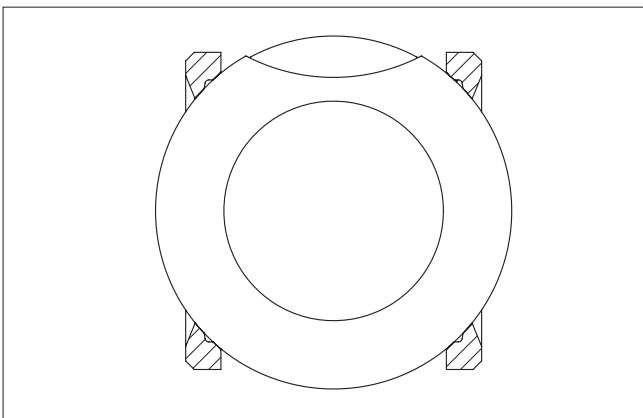
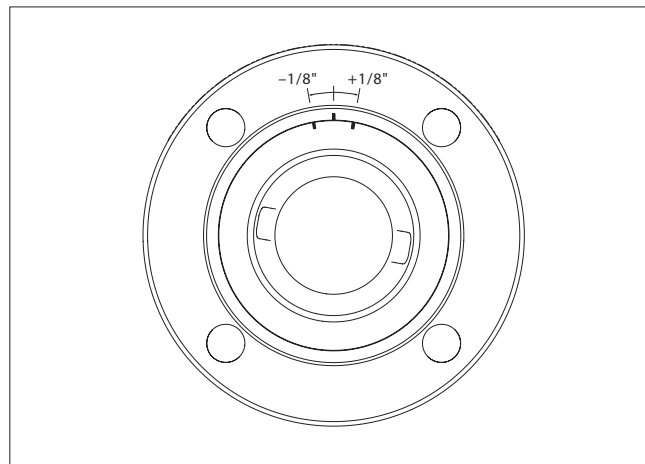
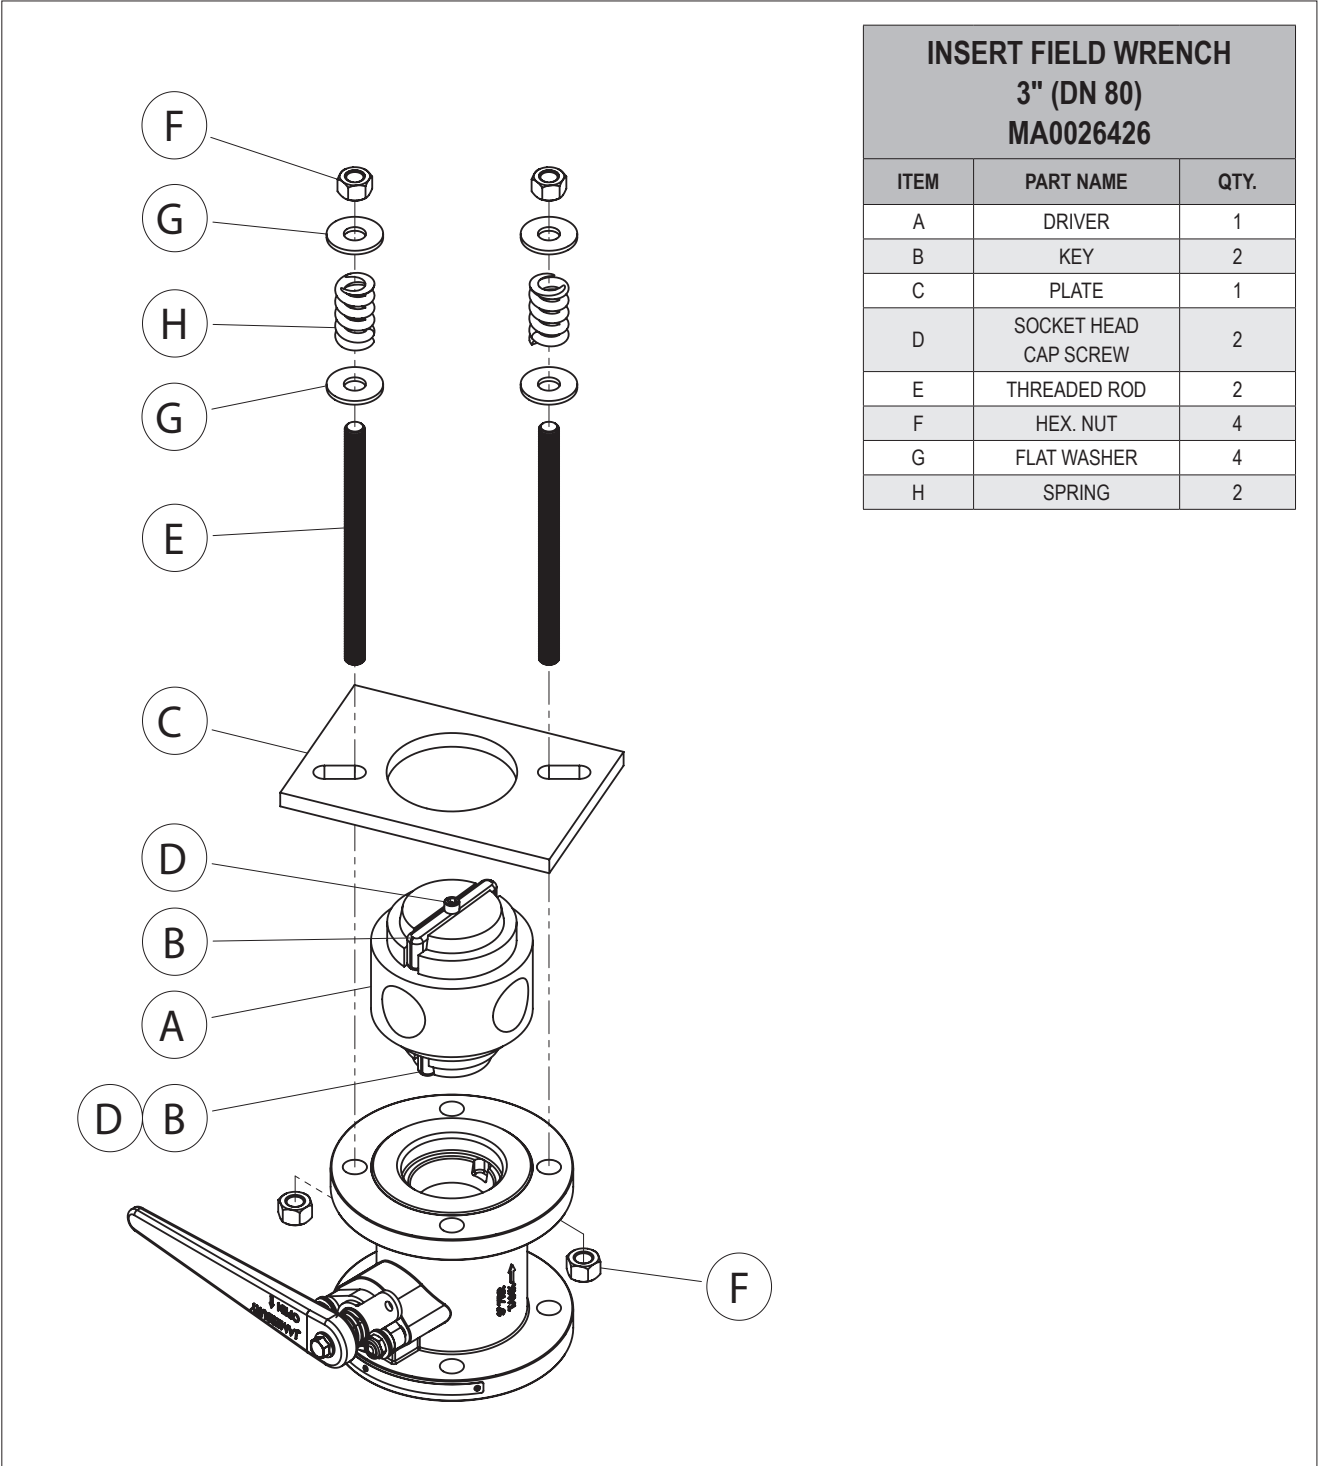

Figure 3. Seats should be in this position at Assembly.
Figure 7.
Figure 8.
3. Remove the handle screw (35), and handle (31).
4. Remove retaining ring (34), spring (33), and indicator stop (32).
5. Remove stud nuts (18), disc springs (17), stop bushings (39), and compression plate (10).
7. Clamp the valve body (1) securely in a vise in the vertical position with the insert end up, taking care not to damage any valve sealing surfaces.
8. Unscrew and remove insert (2). The insert design requires that the insert be unscrewed in a counterclockwise motion. An insert field wrench is available for purchase to remove the valve insert and shown in **Figure 8**, which may be ordered as MA0026426 from your local Valmet Distributor.
9. If using the insert field wrench, assemble the insert field wrench as follows (refer to **Figure 8**):
- a. Place driver (A) into the insert slots.
- b. Put the plate (C) on top of the driver (A).
- c. Place the studs (E) through the plate (C) and flange holes. Thread the nuts (F) onto the stud below the flange.
- d. On the top side of the plate (C) put a flat washer (G), die spring (H), flat washer (G) and nut (F). Tighten to slightly compress the springs.
10. Place a pipe or rod that will tightly fit through the hole in the driver (A) and loosen the insert by turning counterclockwise.
3. Clamp the valve body (1) securely in a vise in the vertical position with the insert end up, taking care not to damage any valve sealing surfaces.
4. Place one valve seat (7) sidewise into the body cavity (1) to just below the stem hole and tilt it into place so that the proper face will come in contact with the ball (3) (see **Figure 3**).
13. Align the stem (5) to the ball slot. Insert the ball (3) rotating it onto the stem (4) in the closed position. If necessary turn the stem blade to align with the ball slot.
14. Insert the second seat (7) with the seat sealing surface towards the ball. (See **Figure 3**).
15. Insert the body seal (65) onto the insert (2).
16. Make sure there is no dirt and grit in the insert (2) threads. Using a thread lubricant compatible with the media, screw the insert (2) into the body (1) and tighten the insert. The insert field wrench (shown in **Figure 8**) maybe used. If the field wrench is used to thread the insert into the body, follow insert field wrench assembly instructions found in **DISASSEMBLY** Step 9 of this IMO. The insert must be tightened the same number of turns as in step 12, insuring that the marks are either lined up or insert mark is $\pm 1/8$ " either side of the body mark, as shown in **Figure 7**.